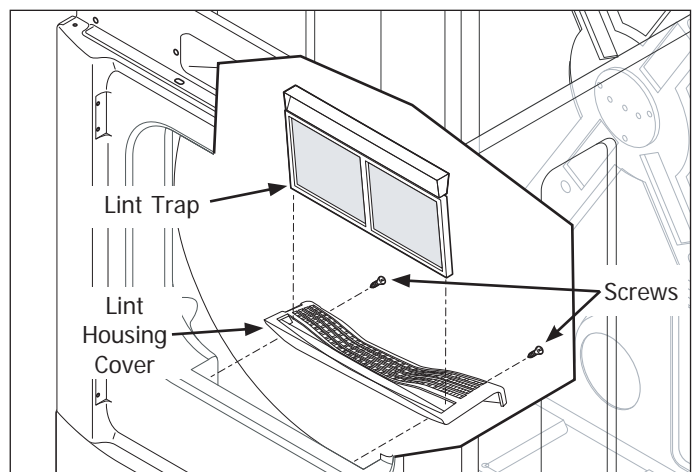

Figure 4-10.
2. Extract the two screws with a #2 square bit from each side of the lint housing cover. Pull cover from unit. (See Figure 4-10)